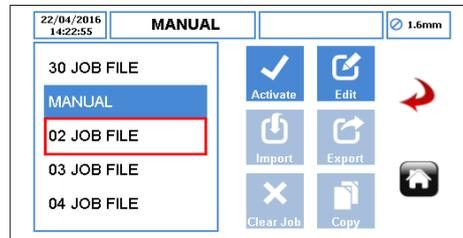

Figure 10 Job File Menu
- ▶ Select  to accept all changes within the Highlighted Job File and the user will be returned to the Job File menu as shown in Figure 10. Changes made on this screen are not saved until this icon is pressed. In Modbus mode, Job Files must be set locally on the pump. Important job parameters can be read over Modbus from the read-only input registers.